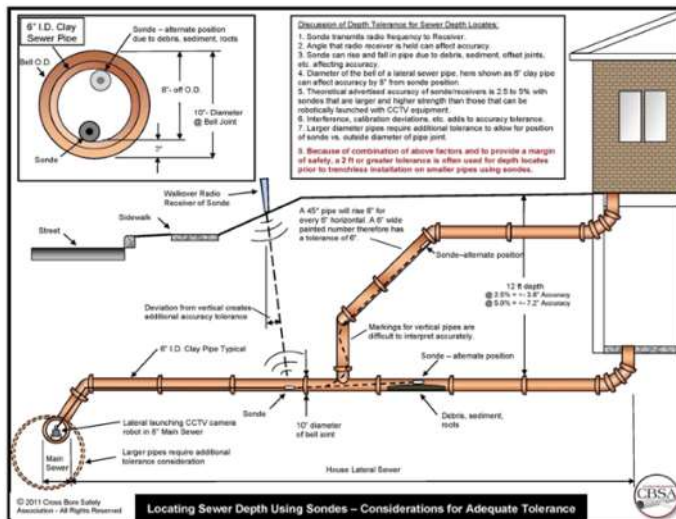

Figure 11: Illustration of Sonde Positions Affecting Sonde Apparent Accuracy
- 1) Both the CCTV camera and sondes will follow the contours of the pipe bottom as shown in *Figure 11* depicting factors affecting depth.
- 3) Large diameter pipes may have significant tolerance if the camera is not centered. See *Figure 11* (Upper and lower left sections of the illustration).